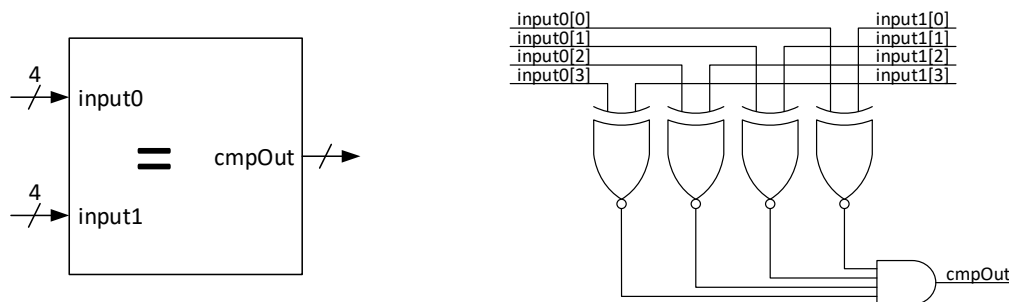
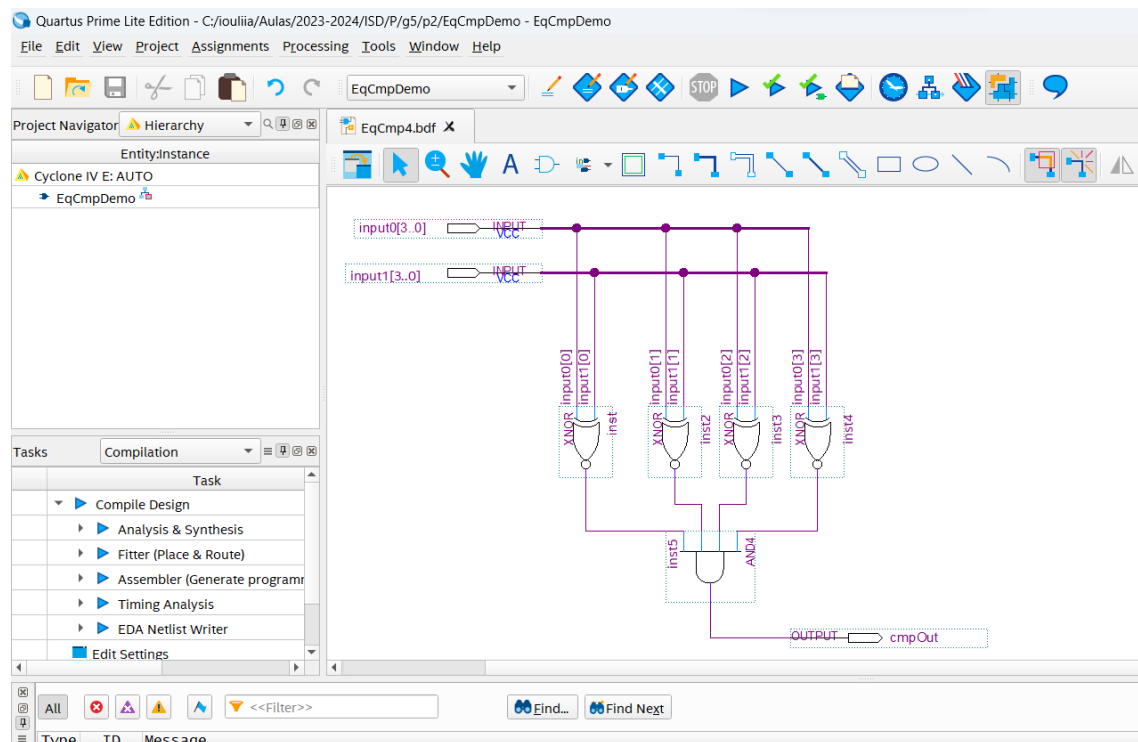

Figure 25 - Logical diagram of the 4-bit word equality comparator.
Figure 26 - Logical diagram of the 4-bit word equality comparator with interconnection and identification of the various circuit elements.
2. Create a new file for a schematic diagram called “EqCmp4.bdf” to implement a 4-bit word equality comparator (Figure 25). At the end of editing the logic scheme, the circuit should look similar to Figure 26. Use the “xnor” and “and4” components of the Quartus Prime library accessible through the Symbol Tool.